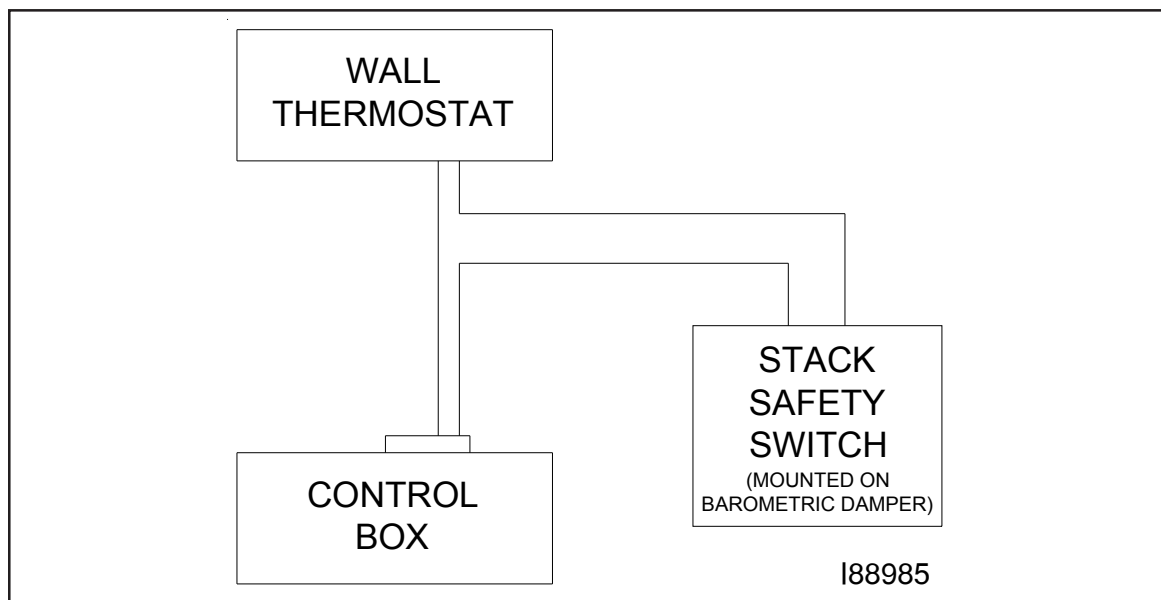

Figure 4L - Stack Safety Switch Wiring Diagram
5. Install the wall thermostat according to the instructions provided in the *Operator's Manual, Section 4*. Wire the wall thermostat and stack safety switch in series as shown in Figure 4L. Install the wire so that it is secured away from any hot surfaces.